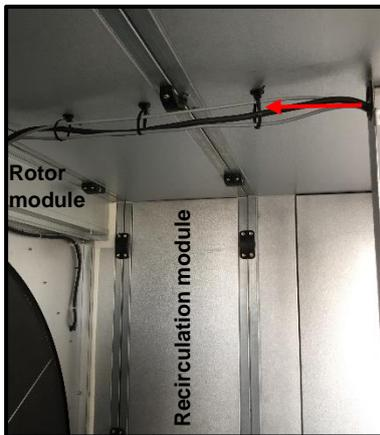

Fig. 84
3. To connect the connecting cables to the rotor module, pull the cable from the cable duct to a sufficient length. (Fig. 84)